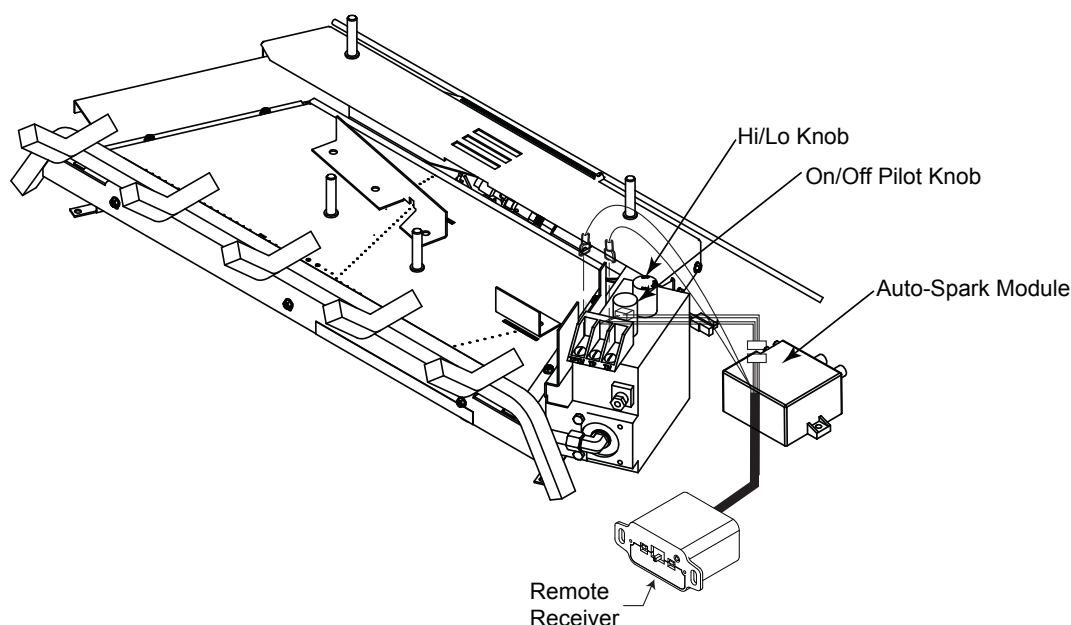

Figure 9.1 - Location of Auto Spark, Control Knobs and Remote
**WARNING! DO NOT place combustible objects in front of the fireplace.** High temperatures may start a fire. See Figure 9.1.